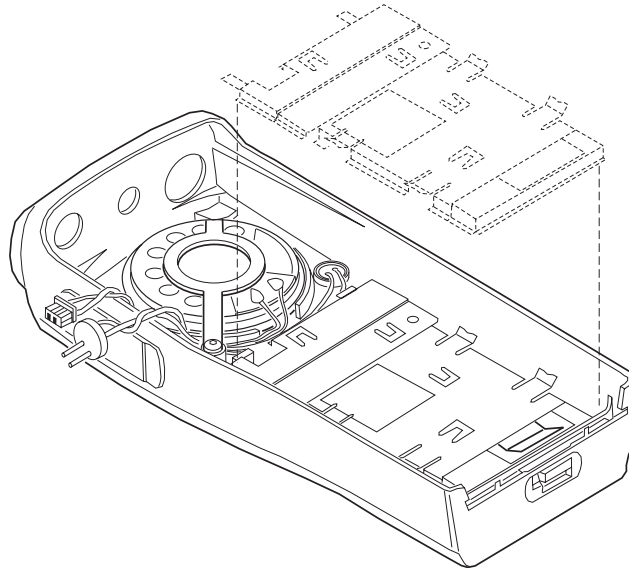

Figure 7-16. Keyboard Retainer Re-assembly
1. Insert the flex cable connector through the slot at the bottom of the keyboard retainer (Figure 7-16).
2. Insert the two top tabs of the keyboard retainer into the two tab retainers located on each side of the speaker in the front housing (Figure 7-16).